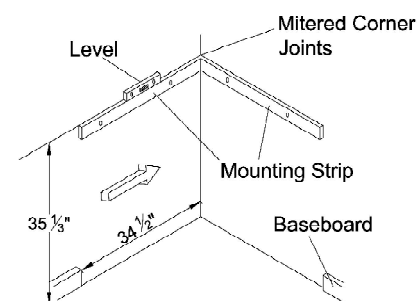

Figure 1
2. Surround must be attached to either a wall stud or wall anchor. Use a tape measure to determine correct height from floor to location of mounting strips (.See Figure 1). Make sure point of the mitered edge of mounting strip touches the corner. Use a level to ensure mounting strips are evenly balanced.